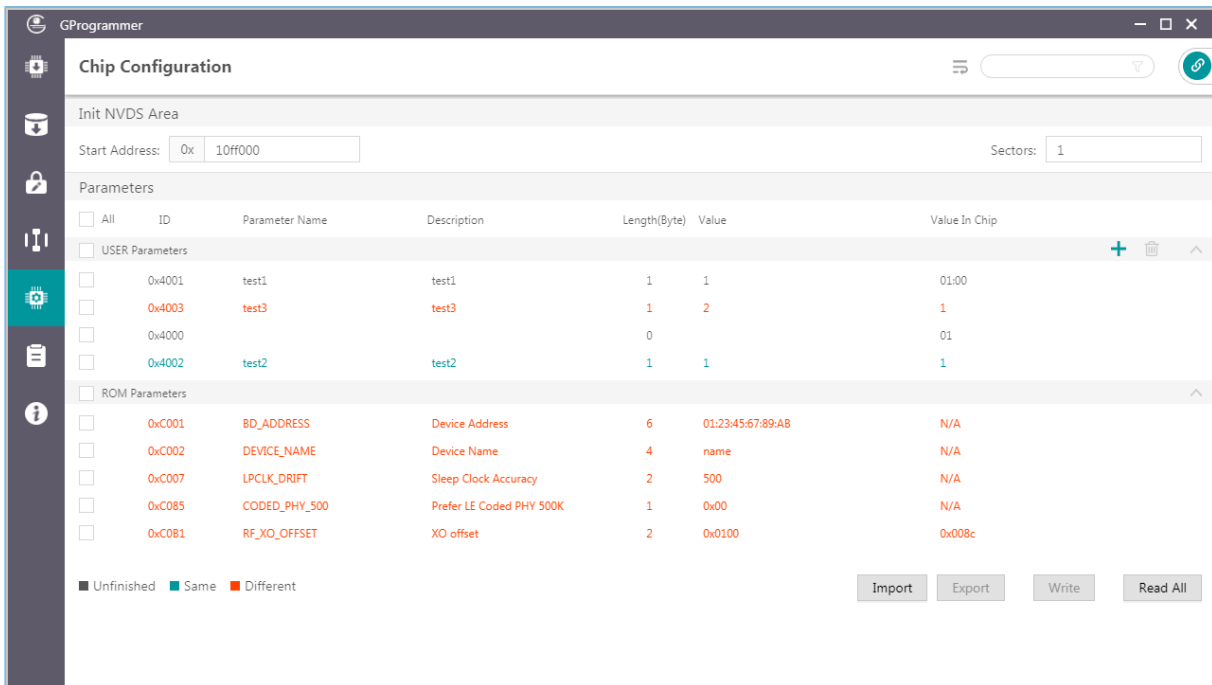

Figure 3-38 Read All interface
- **Unfinished:** Parameters in unfinished state are presented in black. These parameters are either new ones different from the default listed parameters after users click **Read All** (example: 0x4000 in Figure 3-38) or ones that have been listed in the NVDS area but with a different parameter length (example: 0x4001 in Figure 3-38).
- **Same:** Parameters in same state are presented in green, indicating the parameters already exist in the NVDS area and have the same length and value as those in the default list (example: 0x4002 in Figure 3-38)
- **Different:** Parameters in different state are presented in orange, indicating the parameters already exist in the NVDS area and have the same length as but a different value from default listed parameters (example: 0x4003 in Figure 3-38)